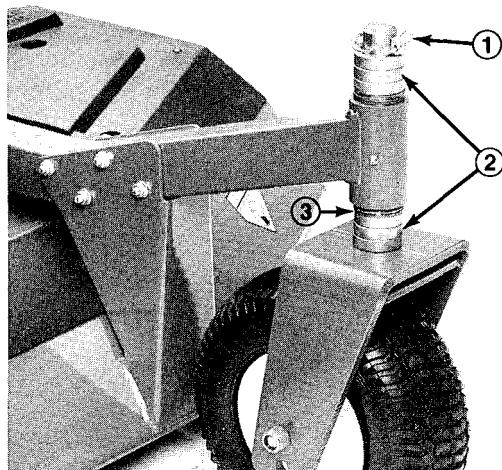

Figure 9
4. On all remaining castor wheel assemblies, remove lynch pin from castor fork shafts (Fig. 9). Remove castor fork shaft and spacer assembly from the castor arm (Fig. 9). Place spacers onto castor spindle to desired height-of-cut setting and install castor fork shaft in arm (Fig. 9). Install remaining spacers onto shaft and secure assemblies with the lynch pin (Fig. 9).